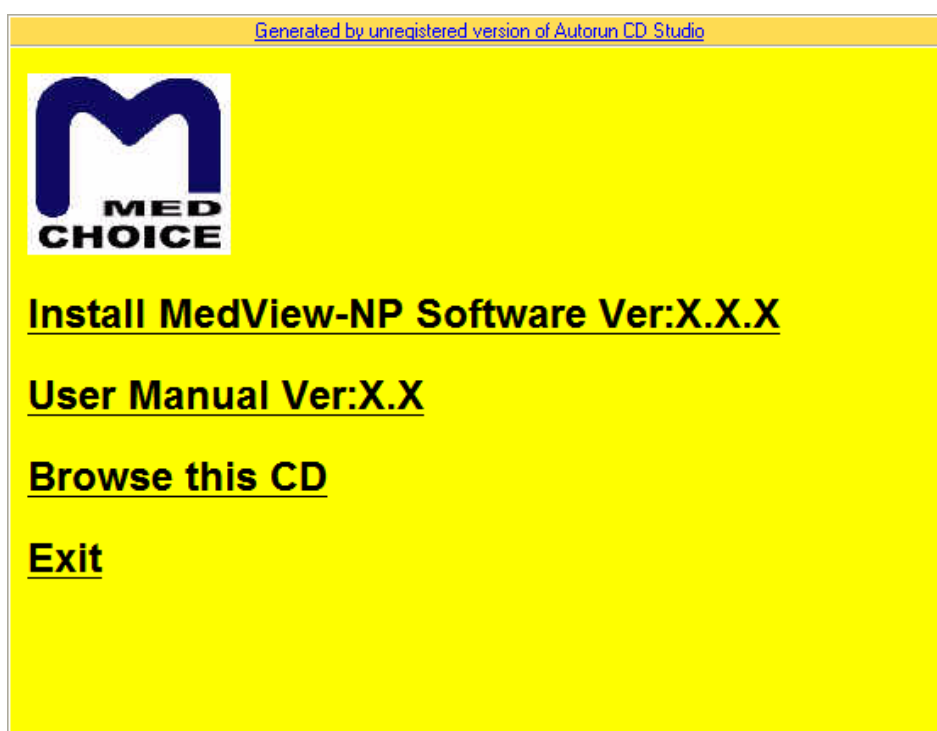
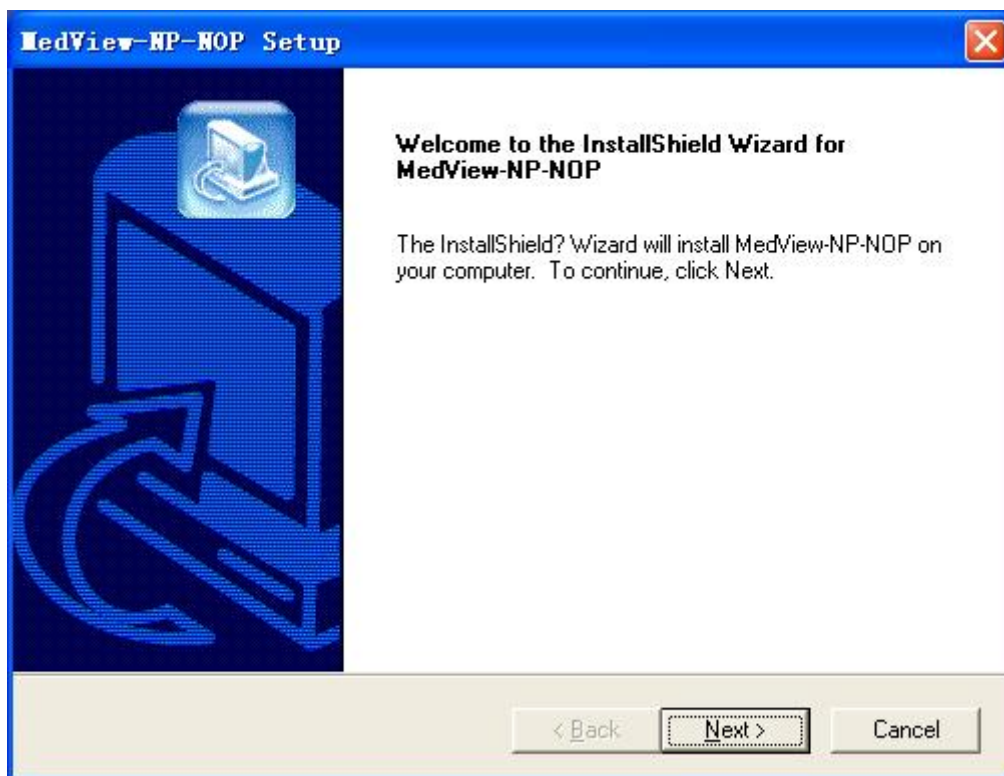

Figure 2-1
Figure 2-2 Click "Next" button
2.1 Put the attached installation CD into computer's CD driver, the CD will run automatically and then the following interface will appear, as shown in Figure 2-1.
(1) Click "Install MedView-NP-NOP Software Ver:X.X" in Figure.2-1 to begin the installshield wizard of MedView-NP-NOP Software. Then Figure 2-2 will appear.